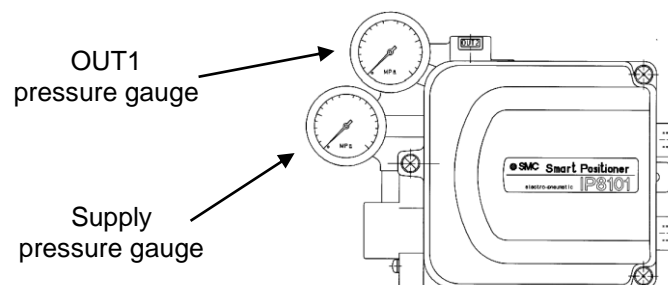

Fig. 6
*5: A Description of pressure gauges mounted on the positioner are as shown in Fig. 6.